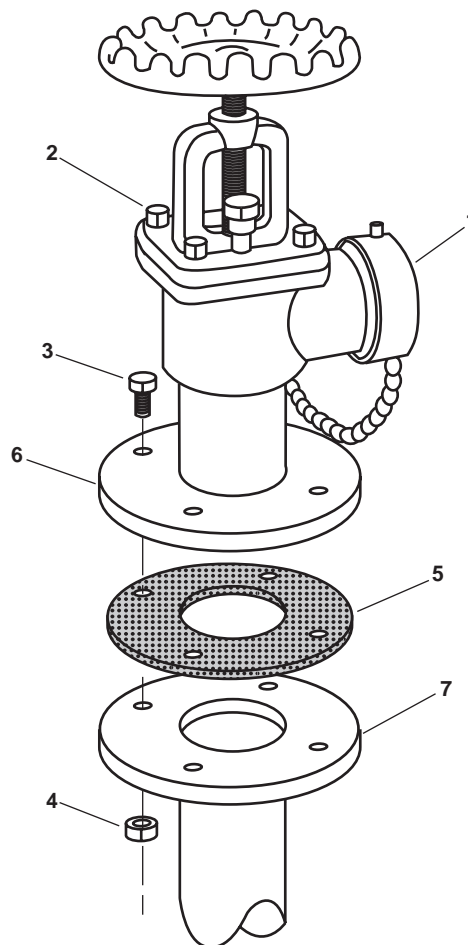

Figure 4. Typical Flanged Angle Hose Globe Valve
1. Place a suitable drain pan under the cap (figure 4, item 1).
2. Remove the cap (figure 4, item 1) and partially OPEN the valve (figure 4, item 2) to vent any pressure or fluid from the valve.
3. Place the suitable drain pan under the valve (figure 4, item 2).
4. Loosen, but do not remove, the four bolts (figure 4, item 3) and the four nuts (figure 4, item 4).
6. Remove the four bolts (figure 4, item 3) and the four nuts (figure 4, item 4), and remove the valve (figure 4, item 2) from the standing piping.
7. Remove and discard the gasket (figure 4, item 5).
1. Using a wire brush and dry cleaning solvent, clean the piping flange (figure 4, item 7).
2. Install a new gasket (figure 4, item 5) on the piping flange (figure 4, item 7). Place the valve (figure 4, item 2) on the piping flange.
3. Secure the valve (figure 4, item 2) with the four bolts (figure 4, item 3) and the four nuts (figure 4, item 4).